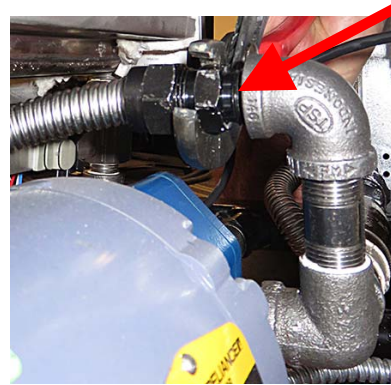

**Figure 44**
45. Using a 7/16" wrench, attach the switch assembly to the four studs on the filter pump mounting plate using 4 - 1/4"-20 nuts (see Figure 44).